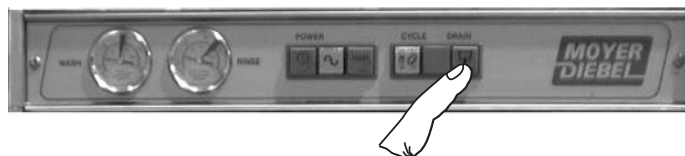

Figure 2- Power Switch Position
1. Press power switch **OFF** (See Fig.2).
8. Press the **POWER** button to refill machine. (See Fig. 2).
1. Remove the overflow tube and press the **POWER** switch to **OFF** (see Fig. 2) to drain the tank.